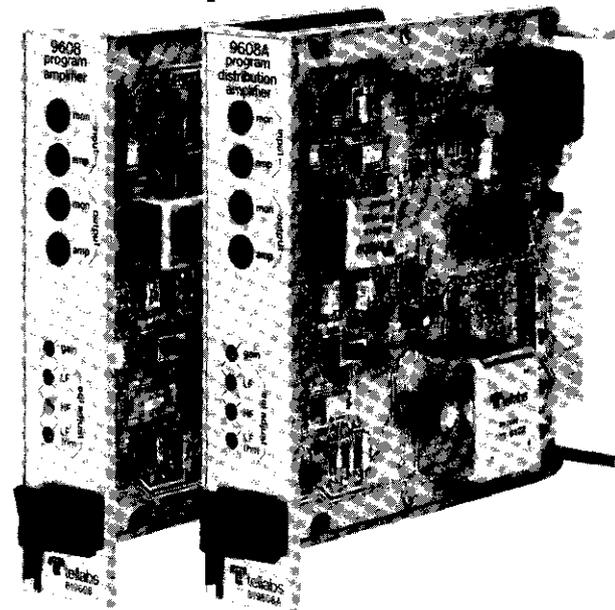

figure 1. 9608 Program Amplifier and 9608A Program Distribution Amplifier modules
1.01 Tellabs' 9608 Program Amplifier and 9608A Program Distribution Amplifier modules (figure 1) are wideband, low-distortion amplifiers designed for use in program transmission applications. The 9608 is a single-input, single-output amplifier, while the 9608A is a single-input, five-output splitting amplifier. In all other respects, both modules are identical. An integral amplitude equalizer may be switched into the circuit to introduce up to 30dB of adjustable precision slope equalization for 5, 8, or 15kHz program applications. With the equalizer switched out of the circuit, amplifier response is essentially flat ( $\pm 1$ dB) from 30Hz to 15kHz. As Metallic-Facility-Terminal (MFT)-configured modules, the 9608 and 9608A are designed for program transmission applications within the Western Electric MFT System family.